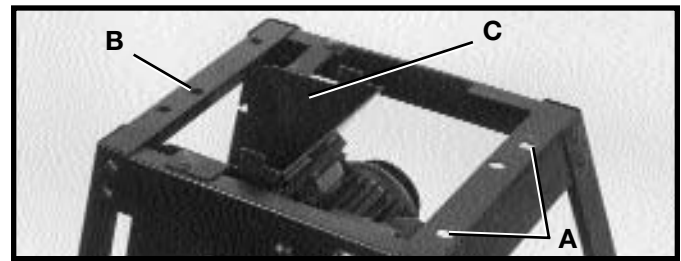

Fig. 9
2. The infeed end of the jointer is fastened to the two holes (A) Fig. 9, and the outfeed end of the jointer is fastened to hole (B) on the two top end braces.